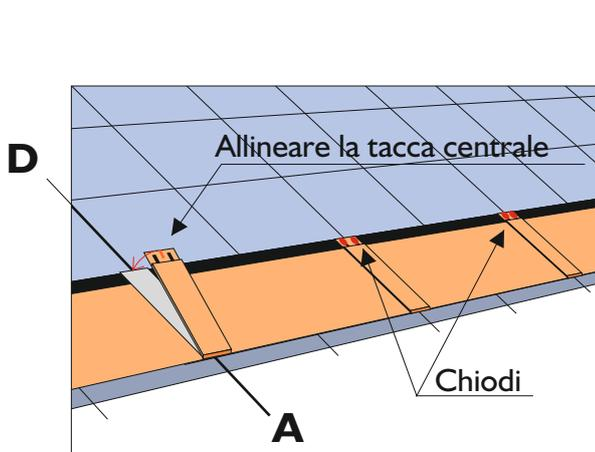

Fig. 8 - Installation of Compact Clip
- Install the "Compact Clip" aligning the central notch on the line AD and nailing it into the proper holes (Fig. 8).